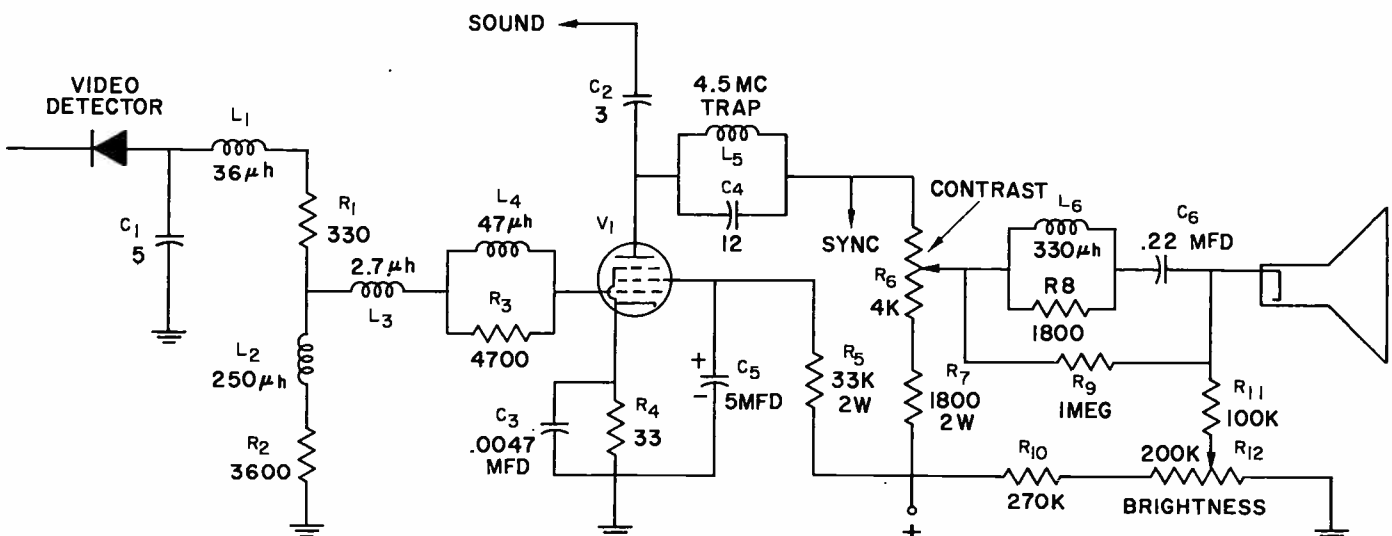

Fig. 28. A typical single-stage, high-gain video amplifier.
One of the most common types of video amplifiers used in black-and-white TV receivers is shown in Fig. 28. It is a single-stage, direct-coupled video amplifier that supplies a positive-going composite signal to the cathode of the picture tube. The video detector supplies a negative-going signal to the grid of the video amplifier stage which uses a high mutual conductance tube. This type of amplifier tube has a very high gain and can build up the weak signal output of the video detector to a peak-to-peak amplitude of 100 volts or more.
- (z) What is the polarity of the sync pulses fed to the grid of V_1 in Fig. 28?
- (aa) What is the purpose of L_5 and C_4 in Fig. 28?